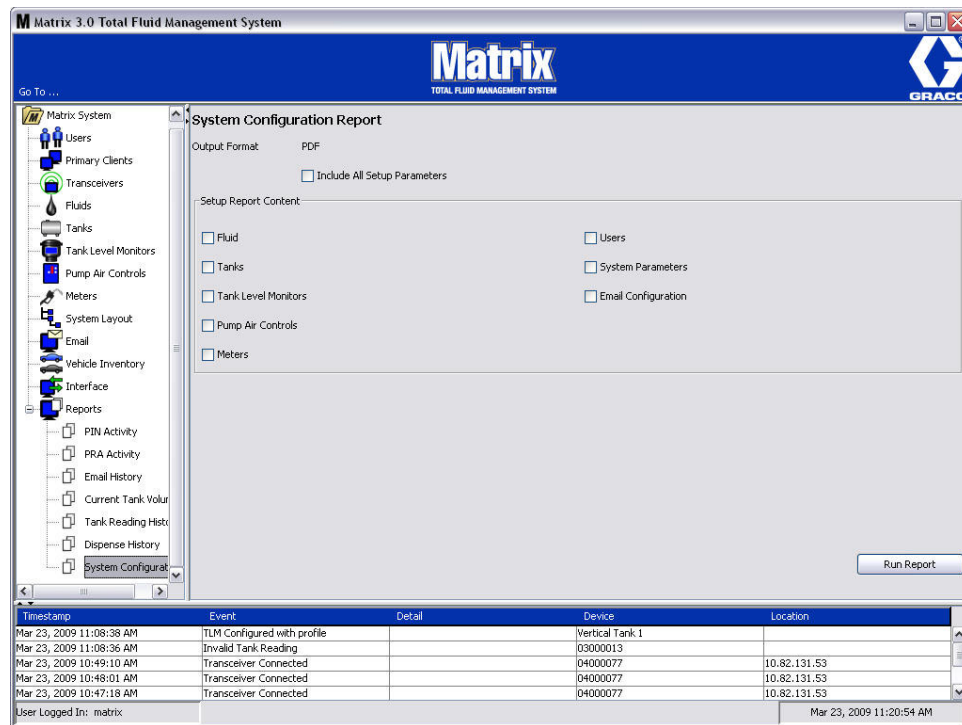

FIG. 177
- **System Configuration (FIG. 177)**